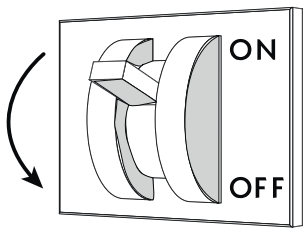

Fig. 31
- Disconnect the power supply to the cabinet using the wall-mounted main switch-disconnector ("Fig. 31").